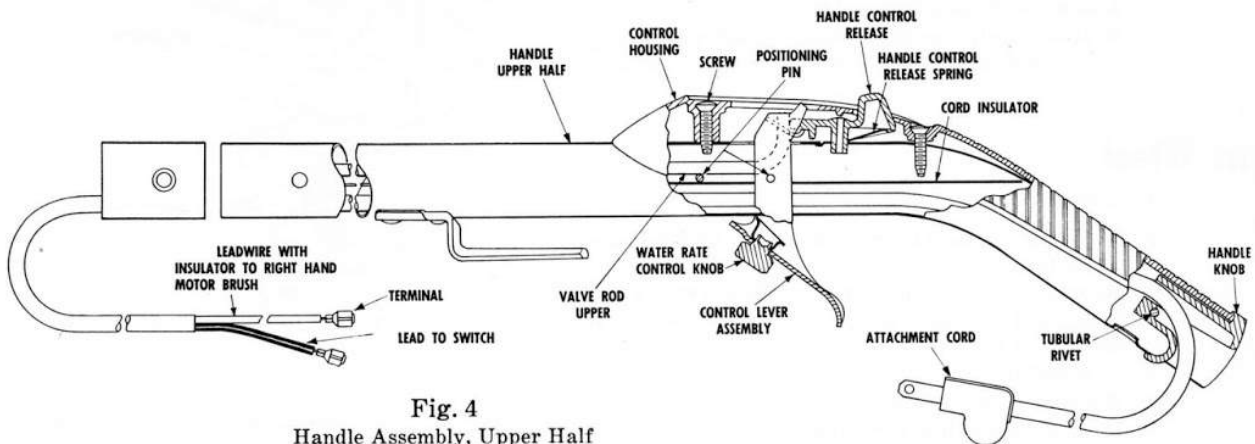

Fig. 4
- Remove 2 Pins, Valve Rod Upper and Cord Insulator. *See Fig. 4.*